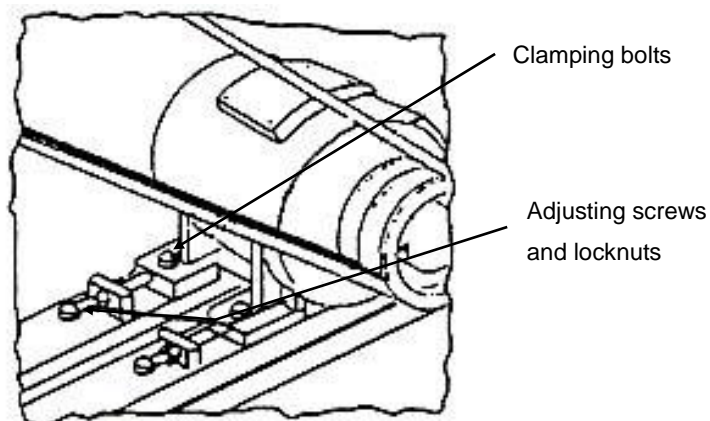

FIG 8.
F. Adjust the tension if necessary. See Fig 8.